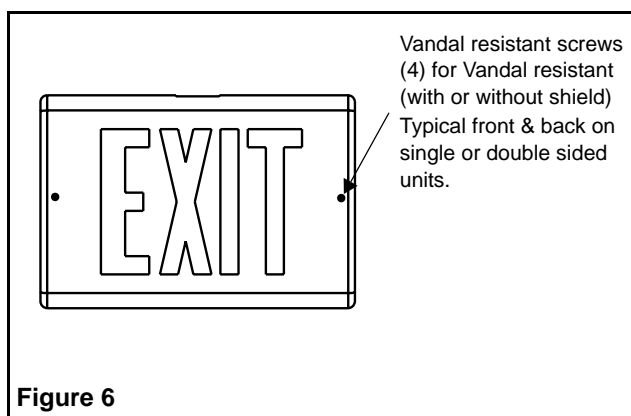

Figure 6
6. Units with vandal resistant options, refer to fig. 6.